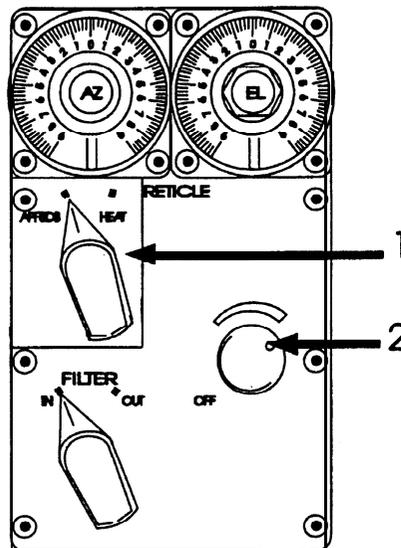

Figure 2-17. GAS Control Panel
2. 3. 2. 2 GAS Control Panel. The GAS Control Panel, shown in Figure 2-17, is the actual tank panel connected to the Gunner's Crew Station cable.